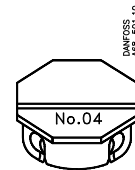

Fig. 3 Capillary tube label for T 2 and TE 2
*Capillary tube label for T 2 and TE 2 (Fig. 3)*